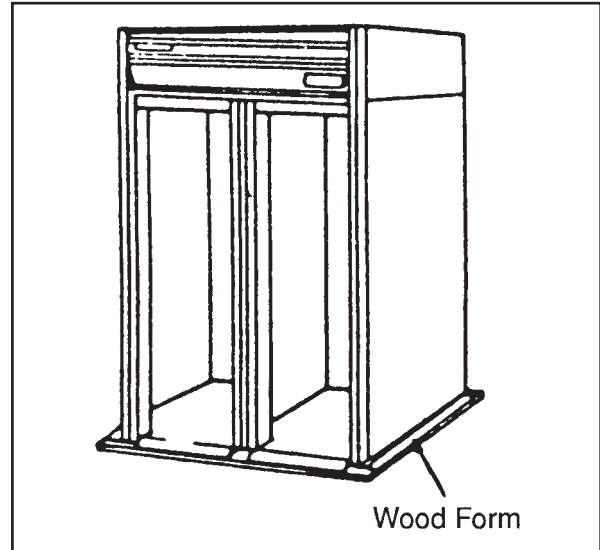

Figure 2-9
3. Construct a wood form to act as a retainer for the grouting compound around the entire base of the cabinet. See Figure 2-9. Pour the grout mixture at various intervals around the form to assure complete fill under the cabinet.